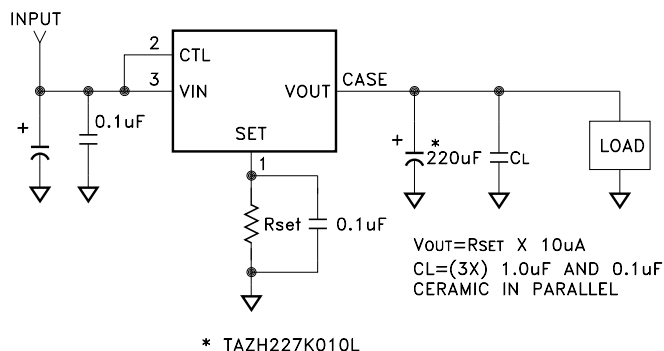

FIGURE 1
- ① Output is decoupled to ground using A 220μF tantalum low ESR capacitor in parallel with 3 pieces of 1.0μF and one 0.1μF ceramic capacitors unless otherwise specified. (See Figure 1)
- ② Guaranteed by design but not tested. Typical parameters are representative of actual device performance but are for reference only.
- ③ Industrial grade devices shall be tested to subgroup 1 unless otherwise specified.
- ④ Military grade devices ("H" suffix) and space grade ("K" suffix) devices shall be 100% tested to subgroups 1,2 and 3..
- ⑤ Subgroup 1 TA = TC = +25°C